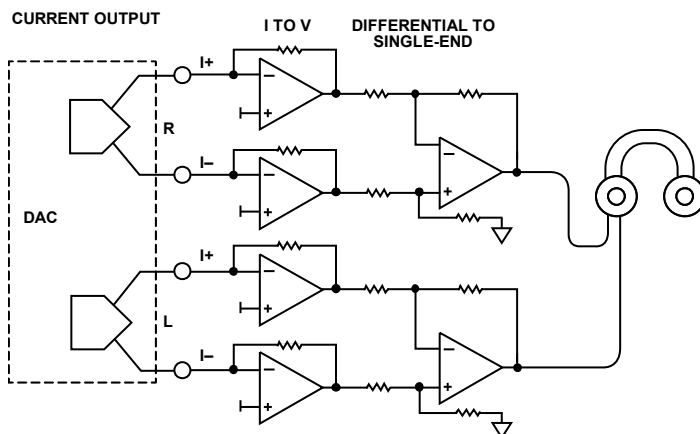
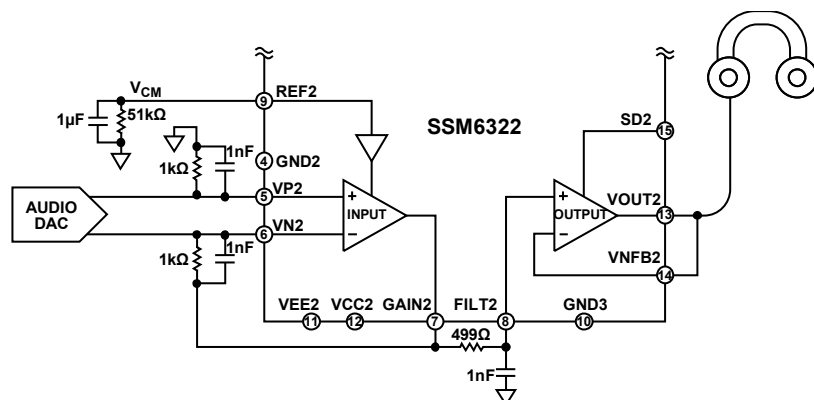

Figure 41. Current Output DAC Configuration
Figure 46. SSM6322 Circuit with Current Output DAC
For a current output configuration, implement an current to voltage (I to V) circuit to convert the differential current signal from the R channel and the L channel to the differential voltage signal, followed by a difference amplifier circuit (see Figure 41).
Current output audio DACs are typically used to achieve the best THD + N performance (see Figure 41). Six amplifiers and many passive components are required to perform current mode signal conditioning, which consumes more PCB area and more power. Area consumption and power consumption are important considerations in mobile phone applications.
In a typical current output DAC signal chain (see Figure 41), four amplifiers are configured as an I to V circuit. The non-inverting inputs are connected to a dc voltage that is the output common-mode level of the DAC, making the voltage at the I+/I- terminals a dc signal. This signal makes the voltage drop at two internal source resistors of the DAC ( $R_{S1}$  and  $R_{S2}$ ) the same, which makes the DAC achieve the best distortion performance.
For an audio DAC with a differential current output, two gain resistors convert the current to voltage (see Figure 46). The resistor value is determined by the DAC output full-scale current and the input stage output range (the output range is  $\pm 3$  V at a  $\pm 5$  V supply). Assuming that the DAC single-ended output current is  $\pm 1.5$  mA, and that the differential current is  $\pm 3$  mA, the output of the input stage is  $\pm 3$  V when using two  $1$  k $\Omega$  gain resistors. The feedback capacitors, in parallel with the gain resistors, form a single-pole, low-pass filter. The SSM6322 can handle up to a  $1$  k $\Omega$  and  $2.2$  nF resistor capacitor combination.
A  $499$   $\Omega$  resistor and  $1$  nF capacitor can be added between the input stage and output stage for a second single-pole, low-pass filter, as shown in Figure 46.
- The SSM6322 circuit is different with a typical current output DAC signal chain (see Figure 41); there is only one op amp that performs the differential I to V conversion. The power across the noninverting grounded resistor is fixed, but the power across the feedback resistor varies with the output signal. This variability creates a mismatch between the two resistors, as well as distortion if the heat cannot be well dissipated. Low drift (25 ppm/°C) metal film or thin film resistors are suggested to avoid this situation (see Figure 46).